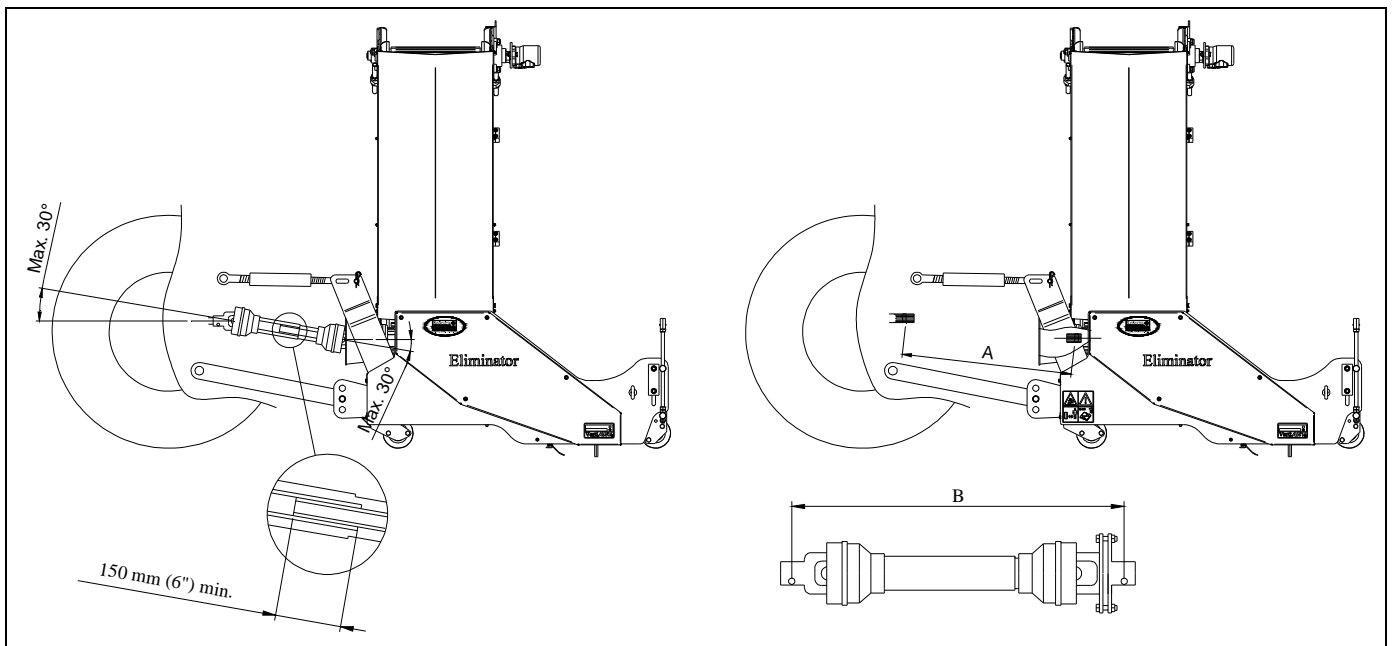

Fig. 8
In figure 8 some important parts are shown:
5.1 LENGTH OF THE PTO (fig. 8)